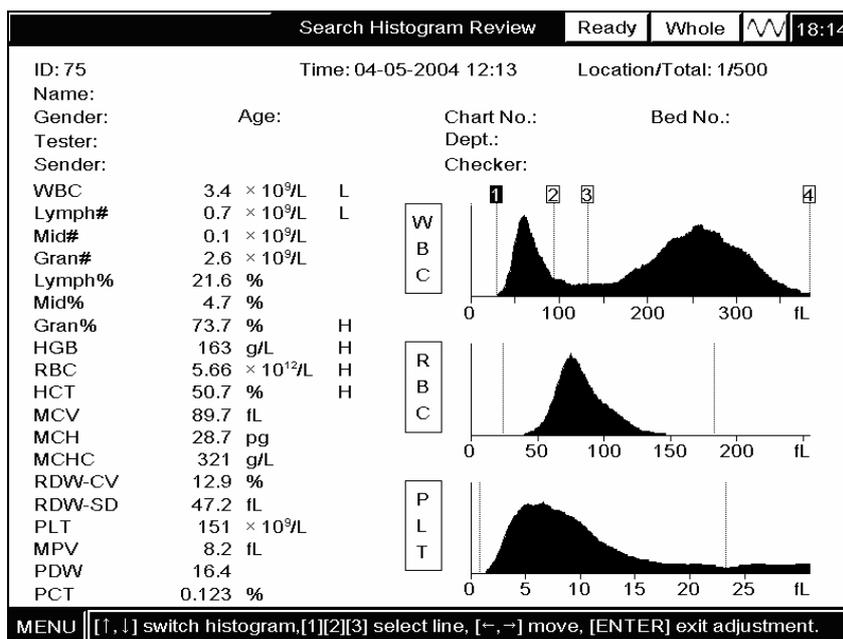

Figure7-47 WBC histogram with adjustable discriminators
1. Press [ENTER] and the discriminator will become adjustable. See Figure7-47;